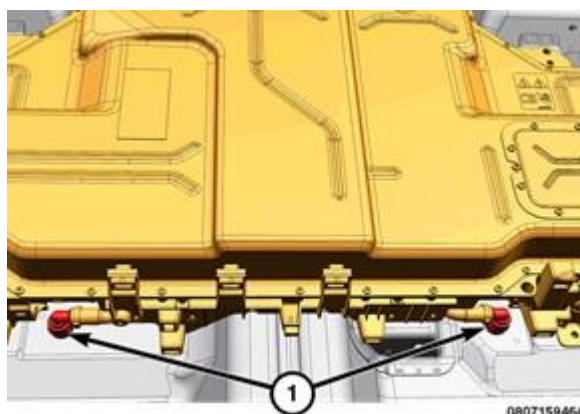

Figure 25 – HV Battery Coolant Connectors
39. Disconnect and plug the HV battery coolant line connectors (1) (Figure 25).
51. Connect the HV battery coolant line connectors (1) (Figure 25).